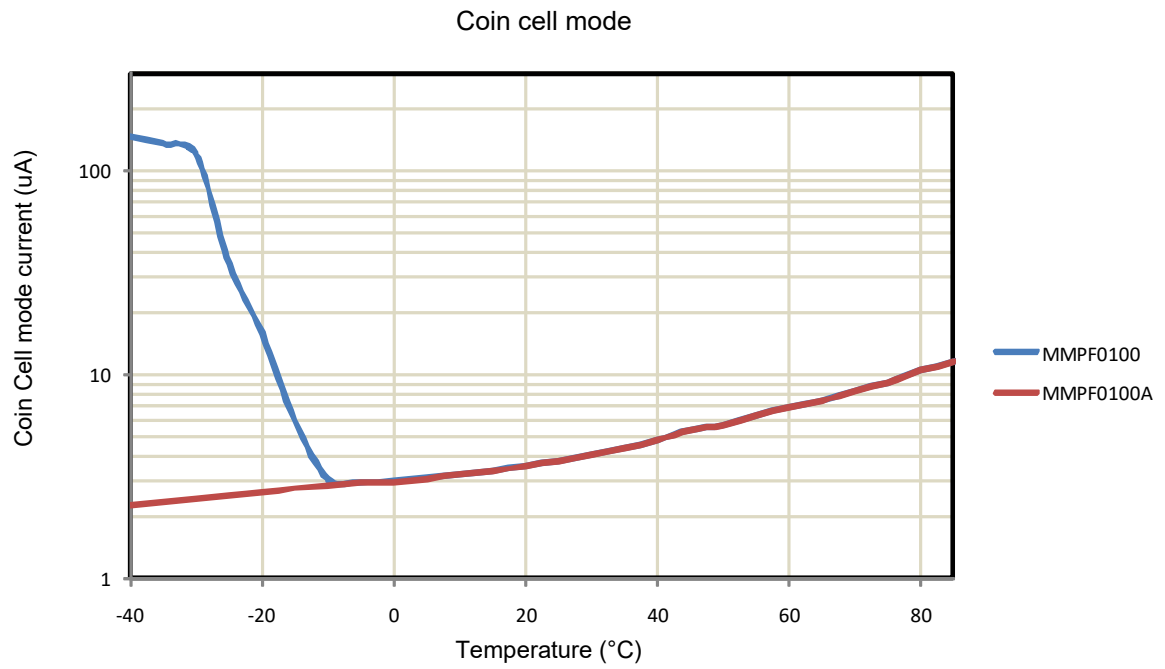

Figure 4. Coin cell mode current vs temperature
- Refer to Figure 4 for coin cell mode characteristics over temperature.